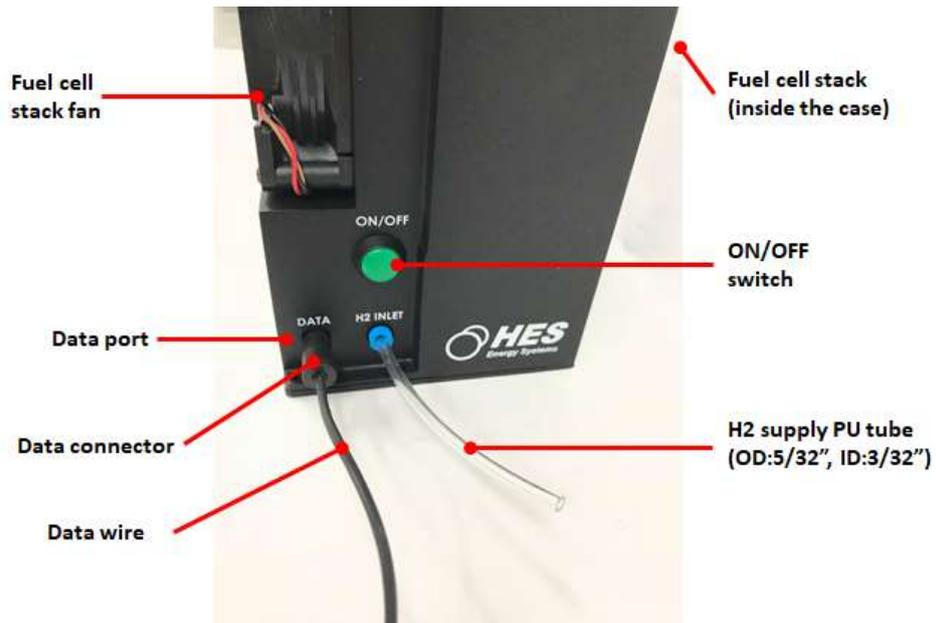

Figure 9. Location of RS232 data port for Aerostak A500-45.
1. The system has a RS232 data port on the side (see Figure 9, labeled as “data port”). This allows the system to be connected to a computer for data logging, performance monitoring, and trouble shooting.